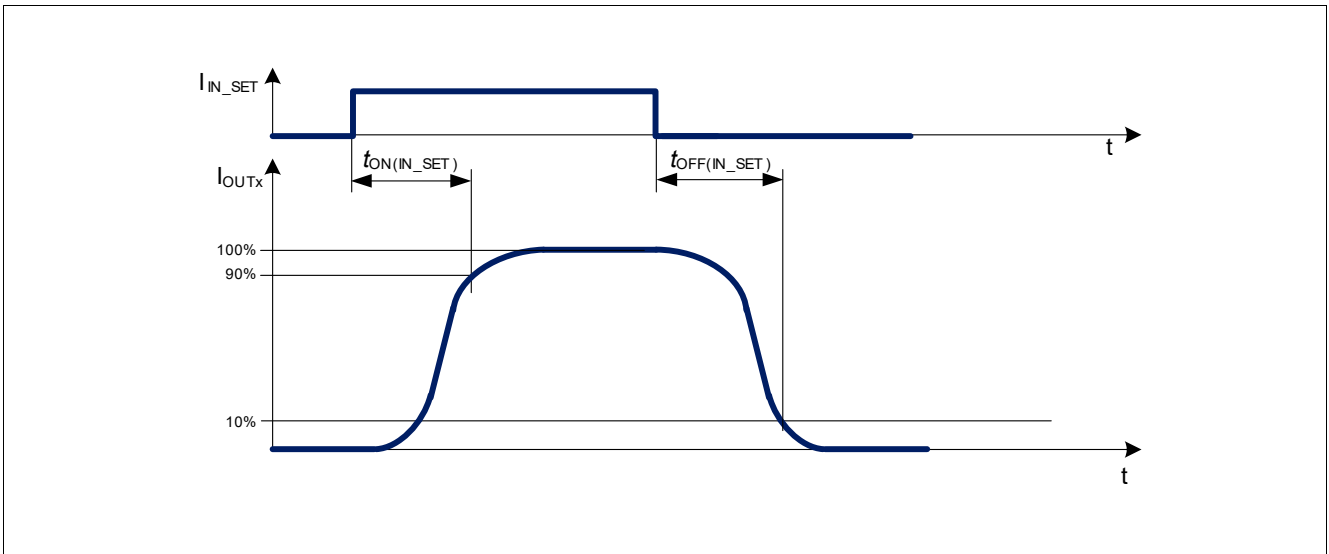
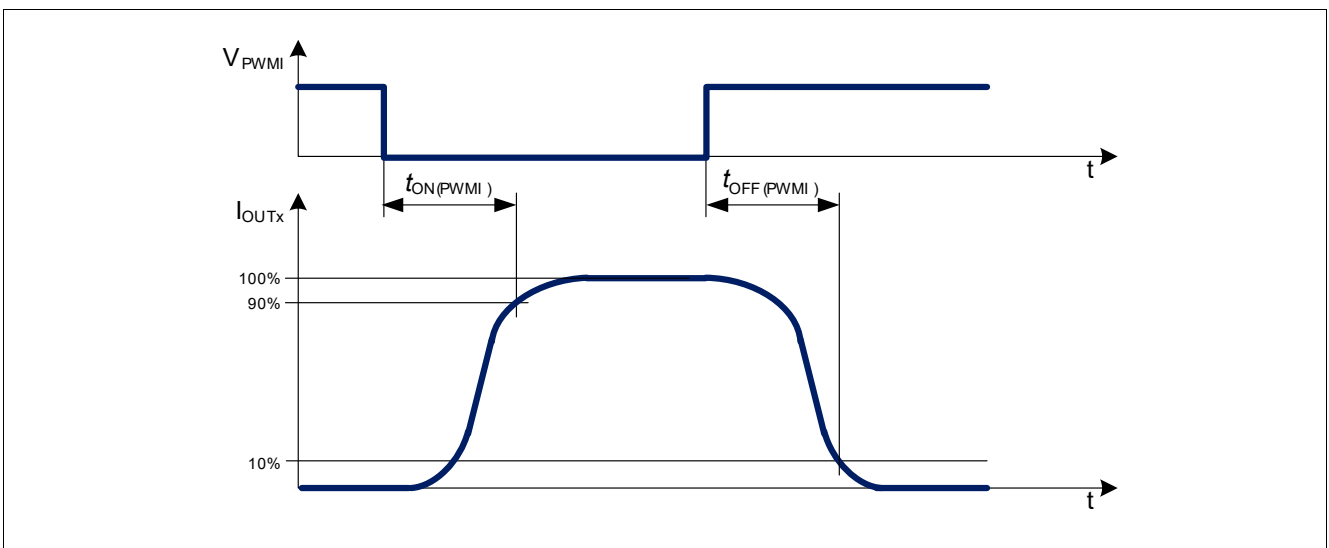

Figure 12 I_{IN_SET} turn on and turn off delay timing diagram
Figure 14 PWMI turn on and turn off timing diagram
In the following diagrams (Figure 12, Figure 14) the influences of different driving inputs on output activation delays are shown.
- 2) Refer to Figure 12
- 4) Refer to Figure 14